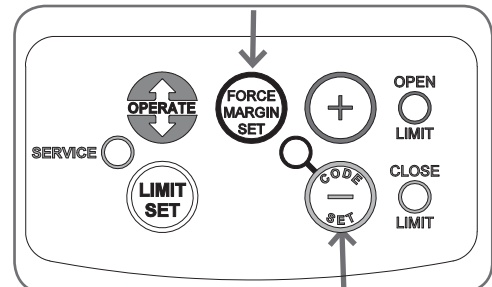

Fig.6.5.4
- Press and hold the FORCE MARGIN SET button (**Fig 6.5.4**).